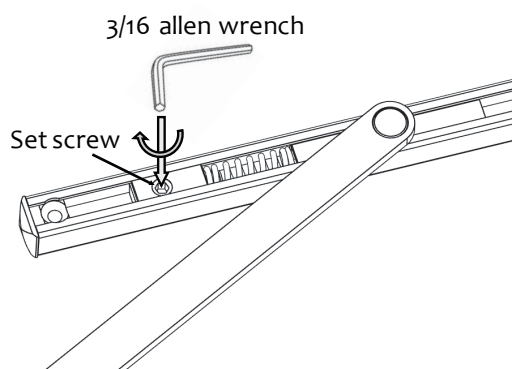

Figure 8
- Tight the set screw. (Figure 8)